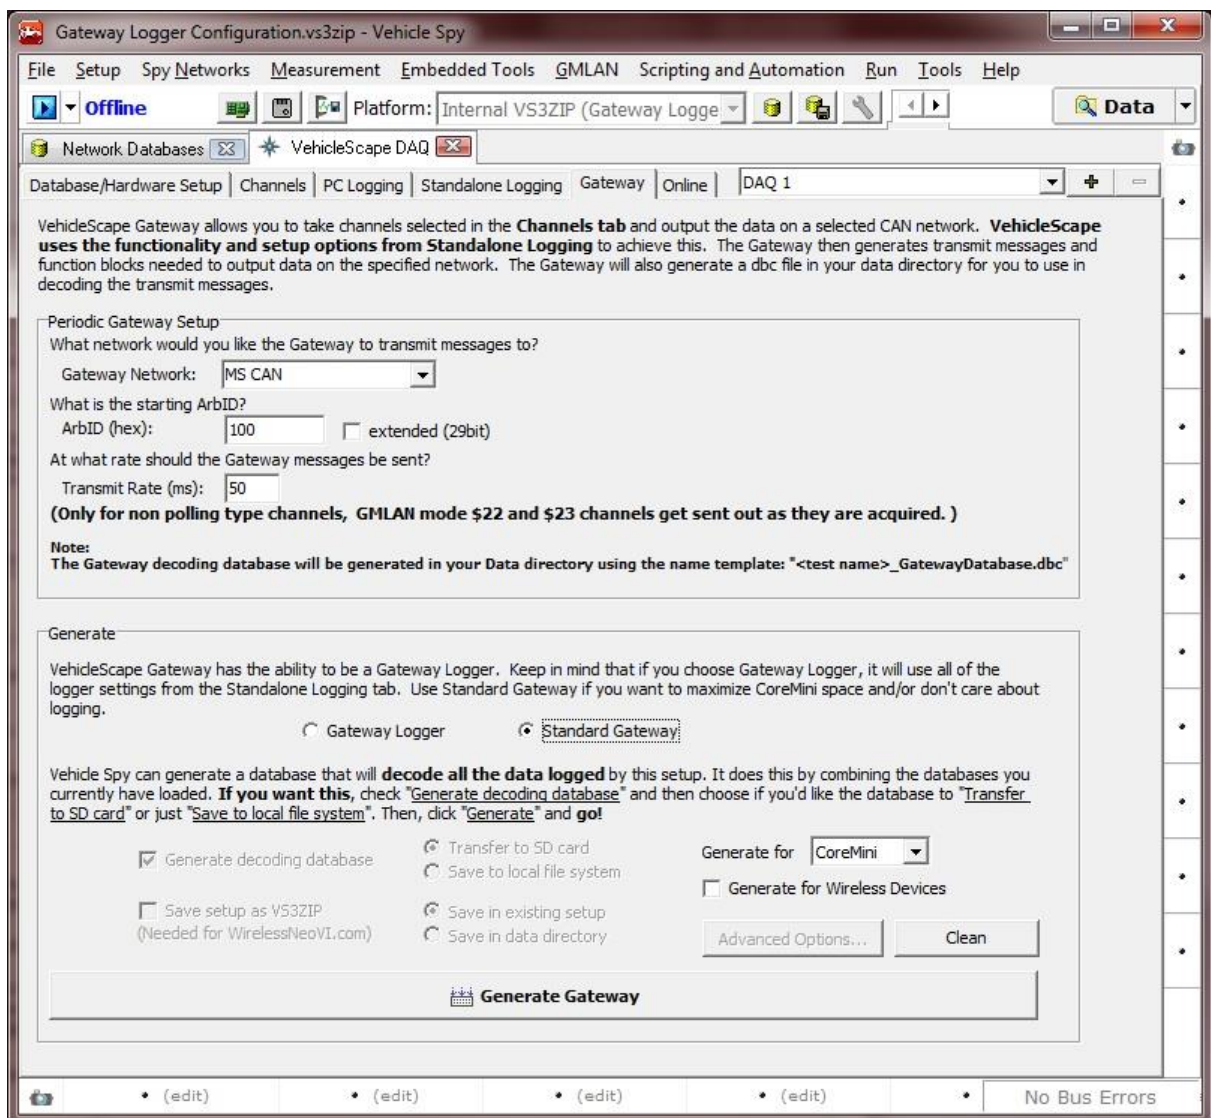

Figure 3: Settings for standard Gateway.
- Select the Gateway Tab (Figure 3)